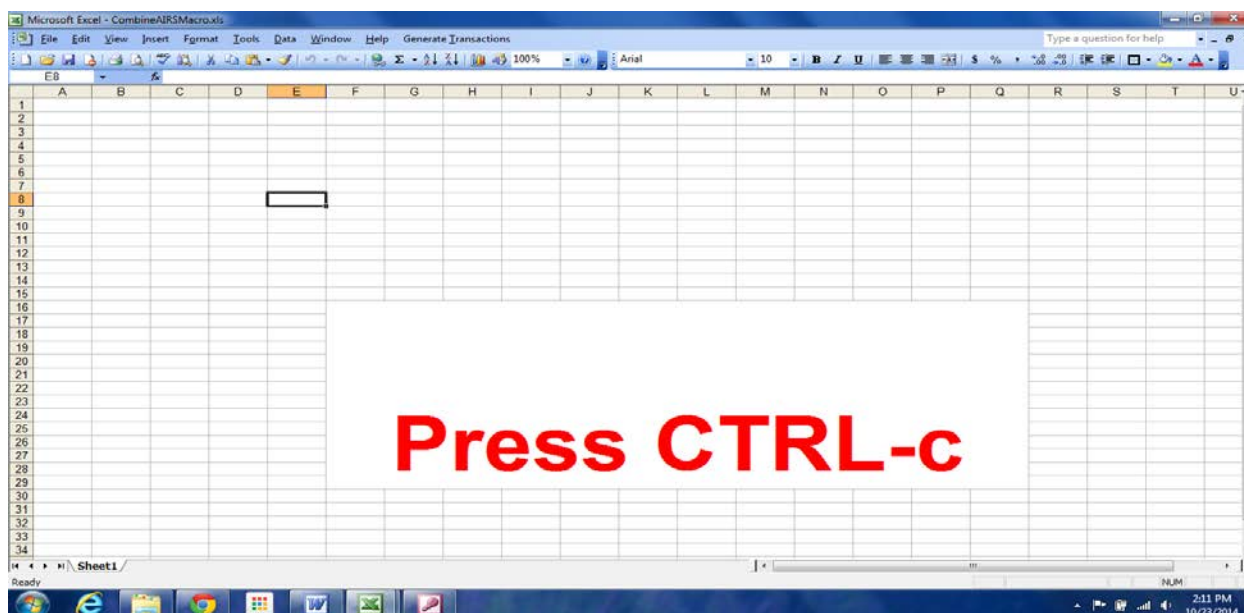

Figure 43: CombineAQSMacro.txt
6.6.3.8 Open S:\A&M\PM_{2.5}\AIRSData\Processed\ “CombineAQSMacro.xls” (see Figure 43) Press ctrl-c so the editing macro can run. This creates file “CombinedAQSS.txt”.